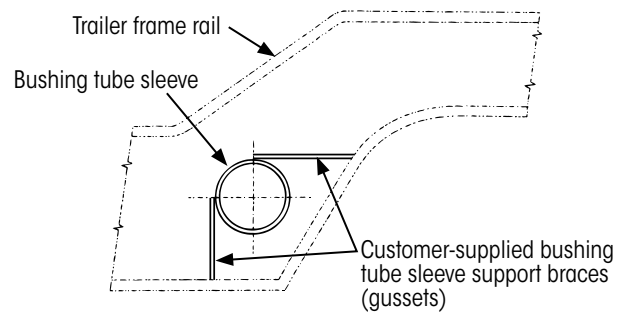

Figure 27: Bushing tube sleeve support brace installation
2. **Install** additional support braces (gussets) to the bushing tube sleeves, Figure 27. These braces are customer supplied and should resist all fore, aft and vertical loading of the bushing tube sleeve.